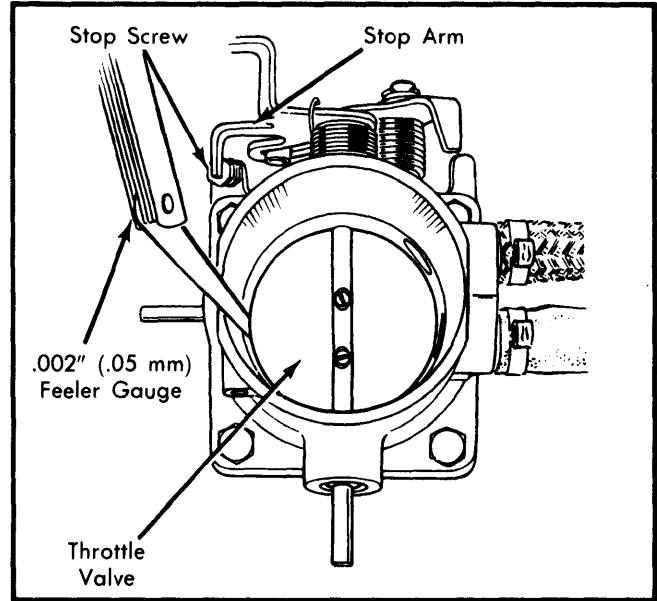

Fig. 8 Adjusting Jaguar Throttle Valve Clearance
- 2) Insert a .002" (.05 mm) feeler gauge between throttle valve and throttle housing bore. See Fig. 8. With feeler gauge in position, adjust stop screw so it just touches stop arm. Tighten lock nut. Press stop arm against stop screw and remove feeler gauge.